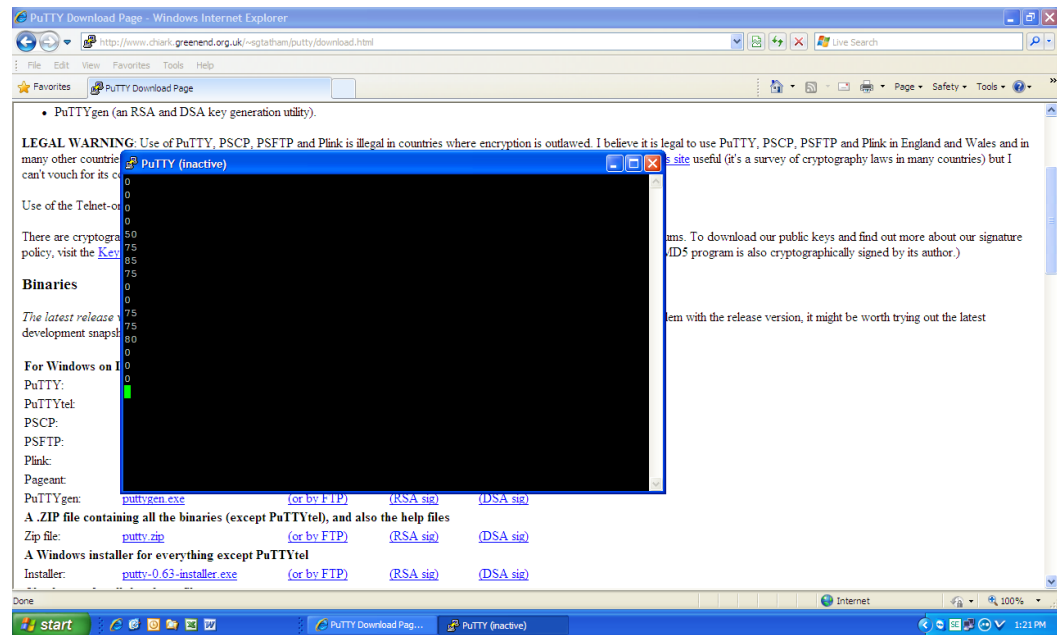

Figure 9
7. Finally “load” the session and then click “open” then start taking measurements with the instrument and collecting data. (Figure 9.)